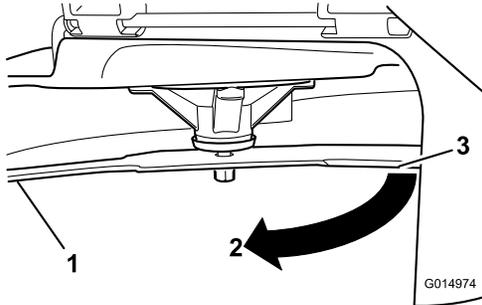

Figure 78
4. Rotate the same blade 180 degrees so that the opposing cutting edge is now in the same position (Figure 78).